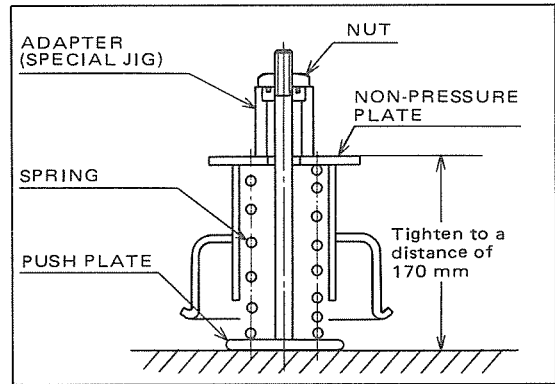

Fig. 32.7
- ① Place the pressure plate on a level stand with the threaded are of the push rod upward and install the spring and non-pressure plate over the push plate.
- ② Install the adapter (special jig) on the push rod and tighten the nut to the push rod to compress the spring (See Figure 32.7).